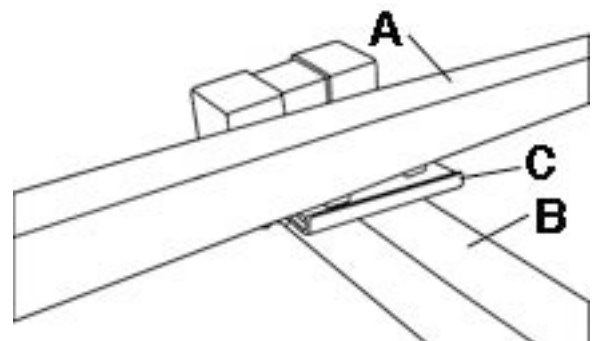

FIGURE 7
- 1) The crossarms are interchangeable. Slide the tapered plate on the crossarm (A) Fig.7 into one of the tapered sockets (C) on the cradle (B).